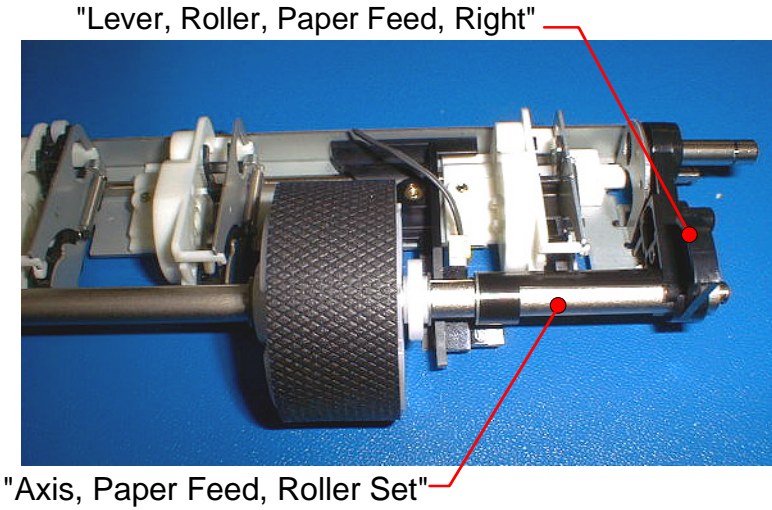

Figure 4-163. Installing Right Side of "Axis, Paper Feed, Roller Set"
- 28. Install "Axis, Paper Feed, Roller Set" to "Lever, Roller, Paper Feed, Right". (See figure4-163)